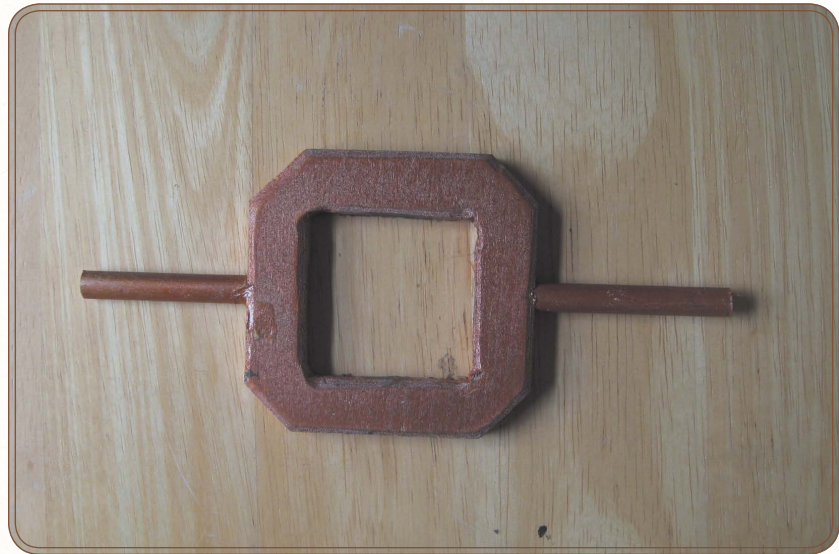

Figure 7.4: The assembled cam follower
4. Add a drop of glue to each hole, insert the pins and claw dowels into the holes, and let the glue dry. Figure 7.4 shows what the cam follower should look like at this point.